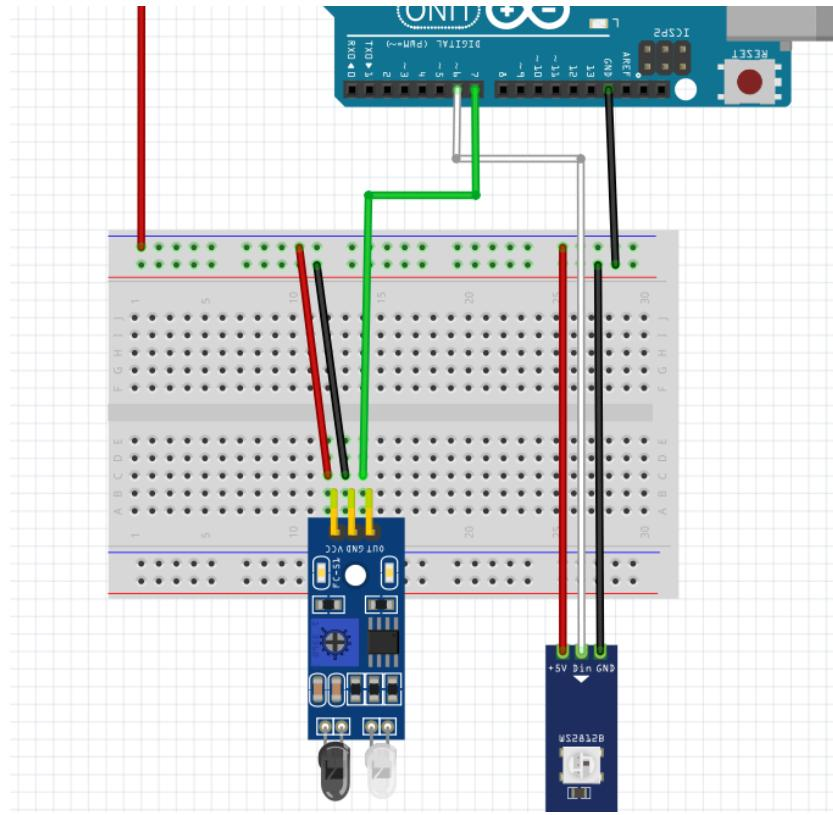

**Figure 2: LED Strip connection diagram**
2. Next, connect the LED strip terminals to power and to Pin 6 as shown in **Figure 2**.